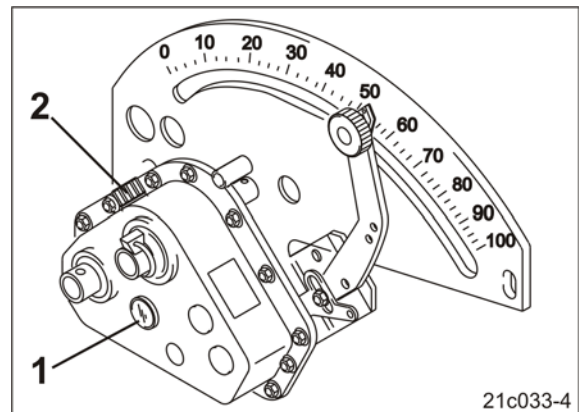

Fig. 81
- The oil level should be visible in the oil sight glass (Fig. 81/1).
3. The oil filler neck (Fig. 81/2) serves to refill the gearbox oil